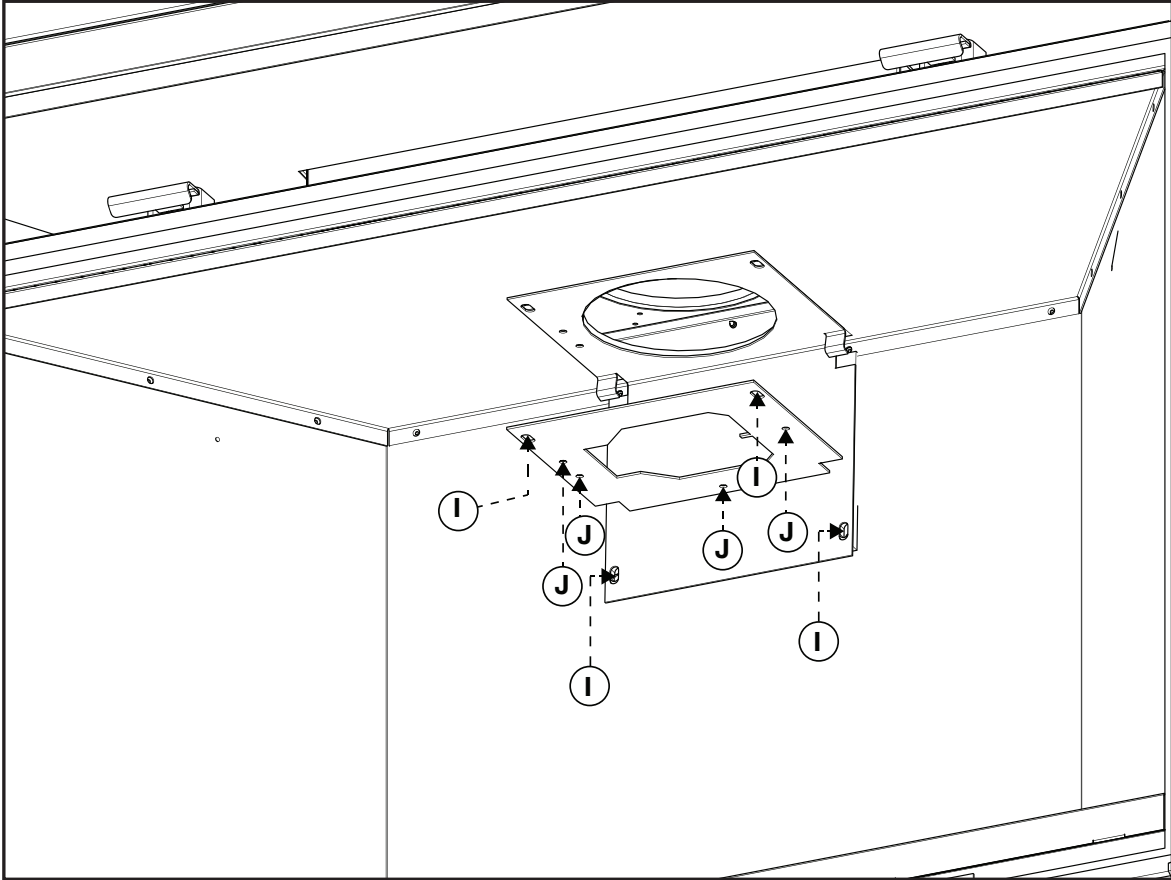

Fig. 3
- F. From inside the firebox, install the 5" (127mm) exhaust collar with gasket and the exhaust outlet reducer plate up through the top of the firebox, and secure with the the 4 hex head 3/4" black screws supplied in the manual baggie (**Fig. 3**).
- G. Fully secure exhaust outlet reducer using 4 self-tapping screws (supplied) (**Fig. 3**).